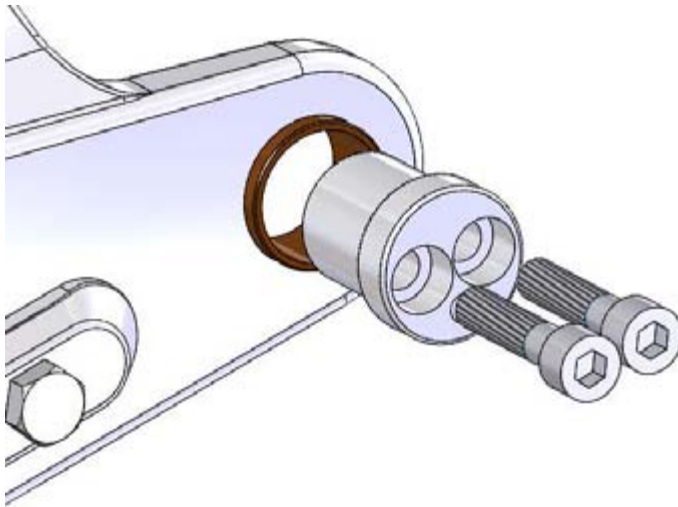

Figure 59. Attaching the joint pegs
3. Tighten the fastening screws (2 on each side) (figure 59).